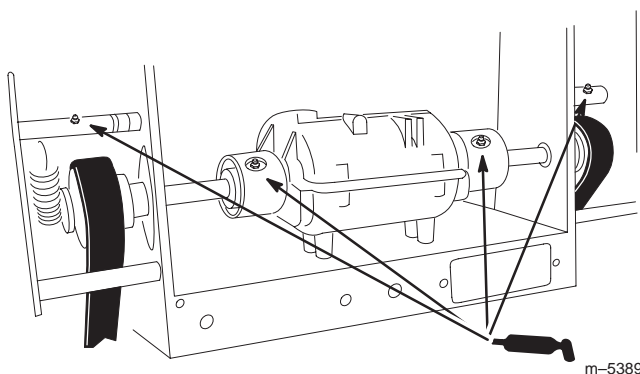

Figure 34
2. Lubricate the transmission couplers after every 100 operating hours and the idler bracket pivots after every 8 operating hours (Fig 34).